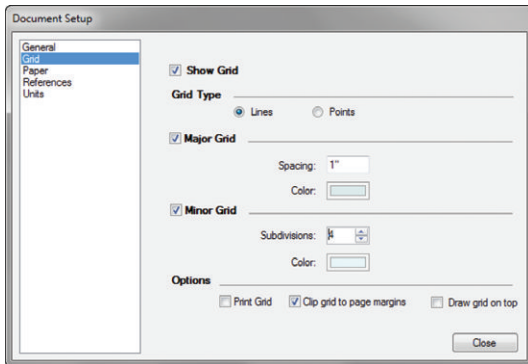

Figure 13.1 The Document Setup dialog, Grid tab
3. On the Grid tab (Figure 13.1), turn on the grid and grid snaps. Also adjust the grid to 1" with four divisions.